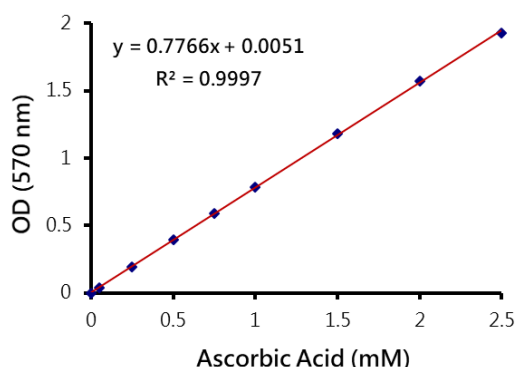

Figure 1. Ascorbic Acid Standard Curve
1. A standard curve was drawn by subtracting the background value (Blank) from the mean absorbance value of the ascorbic acid standard (Figure 1).